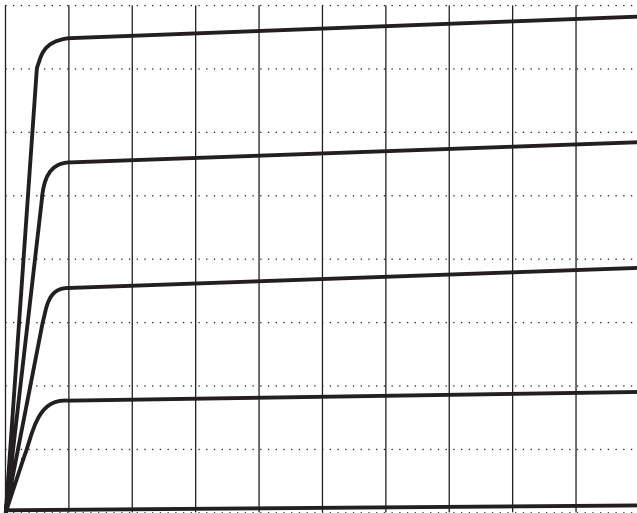

Figure 1
The I_{max} and V_{max} settings determine the operating range for the test and define how the curves are going to be displaying on the CRT screen. As shown in **Figure 1**, the upper edge of the grid represents the maximum value of the test current (I_C , I_D) according to the selected range ($I_{max} = 200\text{ mA} / 20\text{ mA} / 2$
2. Ensure the BIP/FET switch ⑤ is set to the BIP position.
3. Select NPN or PNP as appropriate with the NPN/PNP switch ⑩.
4. Select the appropriate range for the maximum current (I_{max}) ⑨, maximum voltage (V_{max}) ⑫ and maximum power P_{max} ⑬.
5. Press the DUT switch ⑭. Five curves (see Figure 1 or 2) now will be visible on the screen.